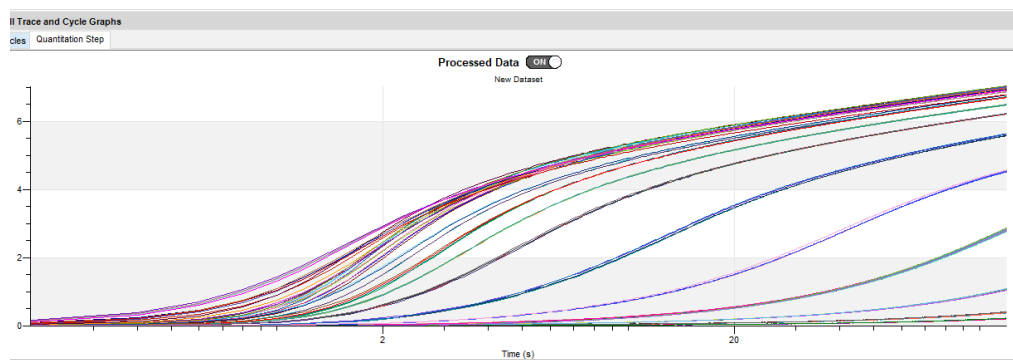

Figure 9-39: X-axis Log Scale Selected
- **Log Scale** - Checking or deselecting this box changes the X and Y scale from linear to log scale (Figure 9-39).